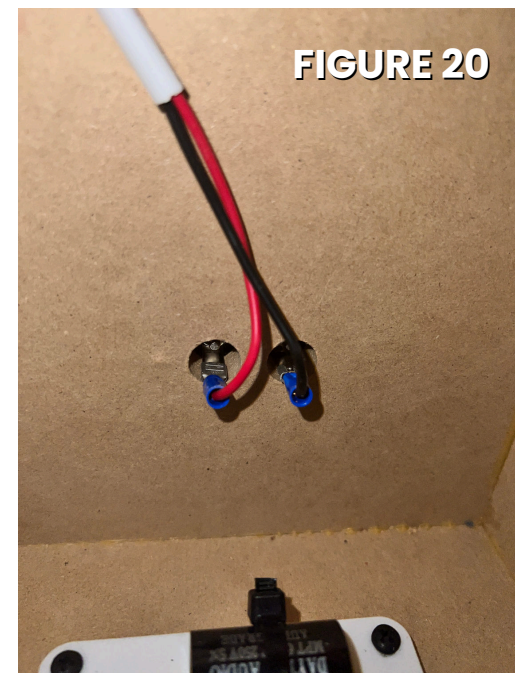

FIGURE 20
- b. Attach the red input wire to the left-side binding post terminal. Attach the black input wire to the right-side binding post terminal. (*figure 20*).